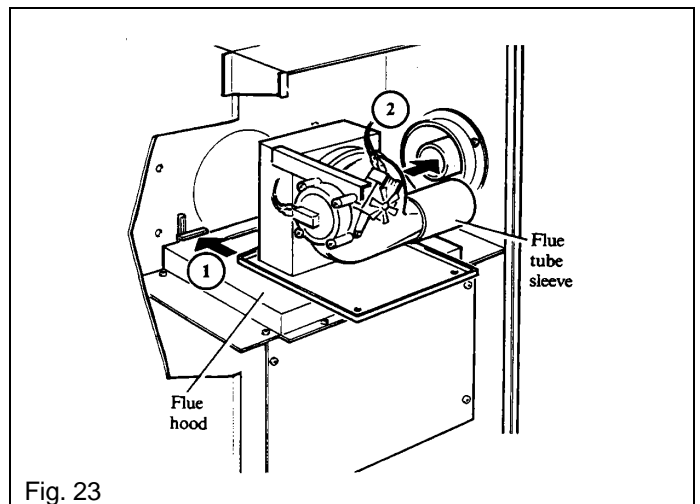

Fig. 23
Refer to Fig. 23.
3. With the fan assembly resting on the flue hood push it towards the rear of the boiler locating the base of the fan assembly under the returns at the rear of the heat exchanger top frame (1 in Fig. 23), then slide it to the left or right to locate the flue tube sleeve on the fan outlet into the inner tube of the flue/terminal assembly (2 in Fig. 23).